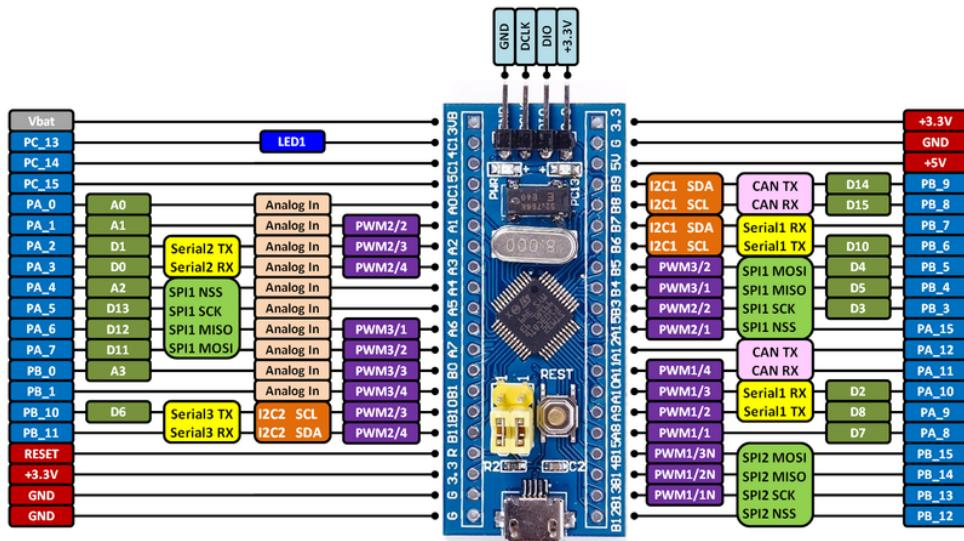

Fig. 11.1: Pin Connections of STM-32
1. The STM32F103C8T6 micro-controller is shown in Fig. 11.1.